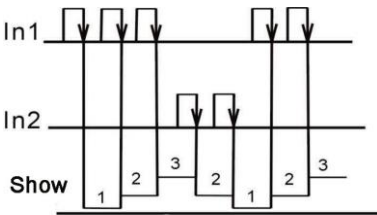

Figure 3-1
(1) Mode 1, addition mode, this mode is a default mode when the product was made (See figure 3-1).